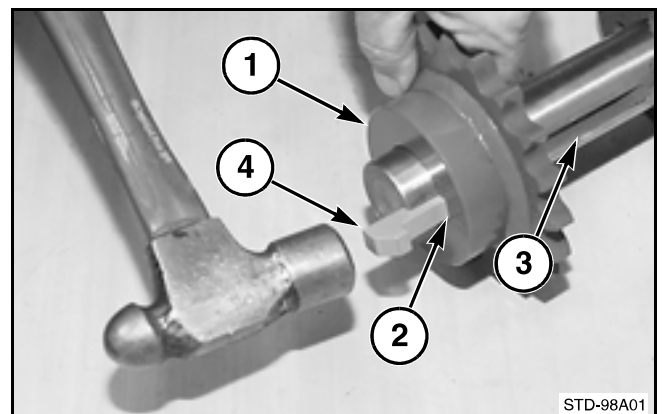

FIG. 14
FIG. 14: When installing the hub (1), make sure the taper in the hub is in the same direction as the gib key taper. Align the key way in the hub (2) with the key way on the shaft (3). Install the gib key (4).